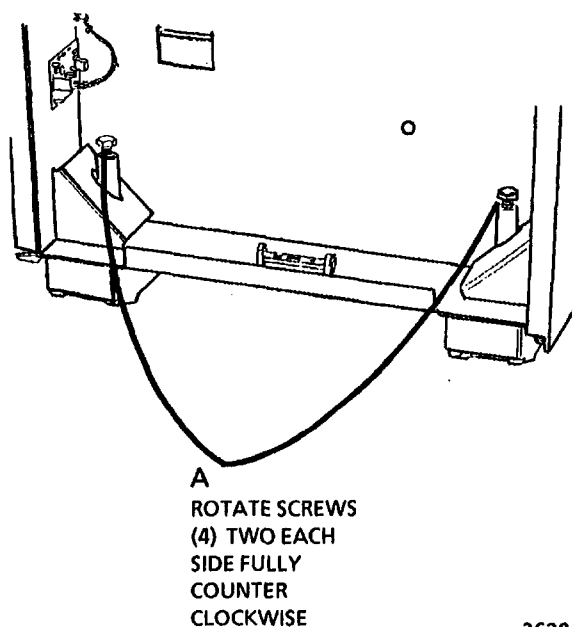

Figure 13. Lower the Copier to the Lowest Position
11. (Figure 13): Lower the copier to the lowest position.